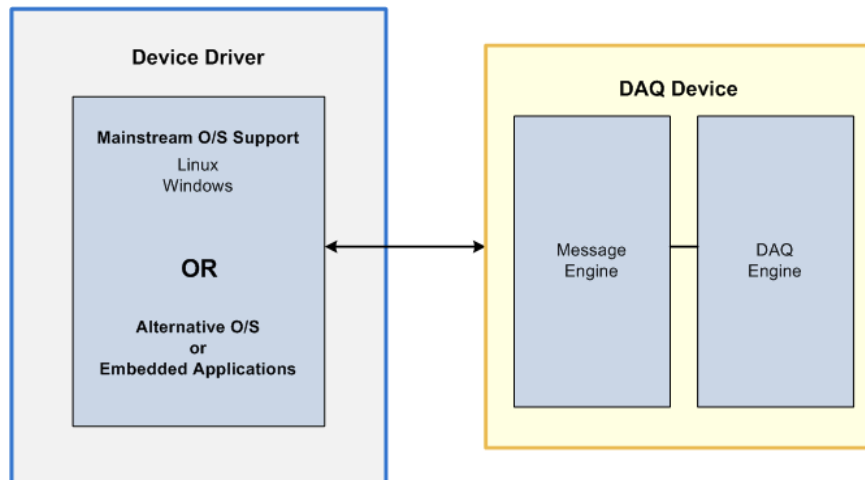

Figure 5 – MBD Driver/Firmware Interface
*The MBD firmware interface provides developers with more options for developing DAQ applications and drivers that can target multiple platforms (Figure 5)*